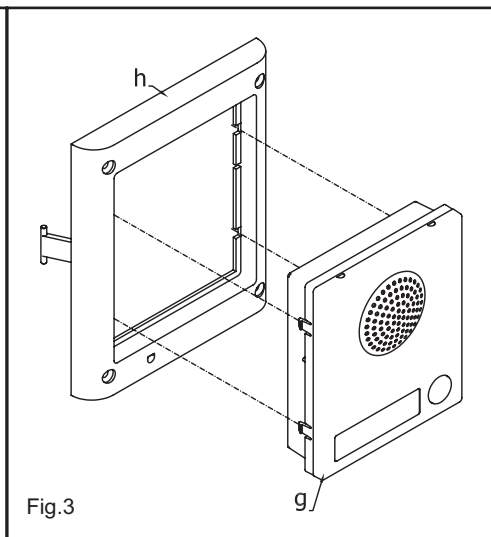

Fig.3
3. Hook the module **g** in the support frame **h** as shown in figure 3;